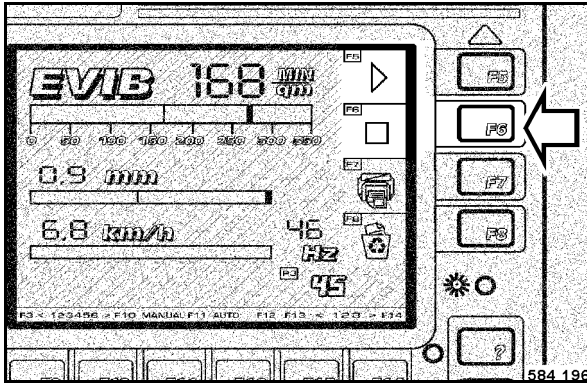

Fig. 98
- When the end of the track, mark 2, is reached, press the button F6 “STOP” (Fig. 98).